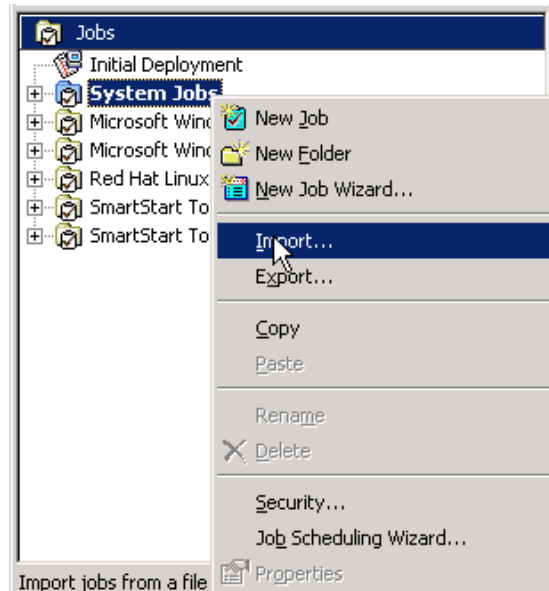

Figure 13: Deployment Server Console Jobs pane
- a. Right-click **Systems Jobs**, as shown in the following example in Figure 13: